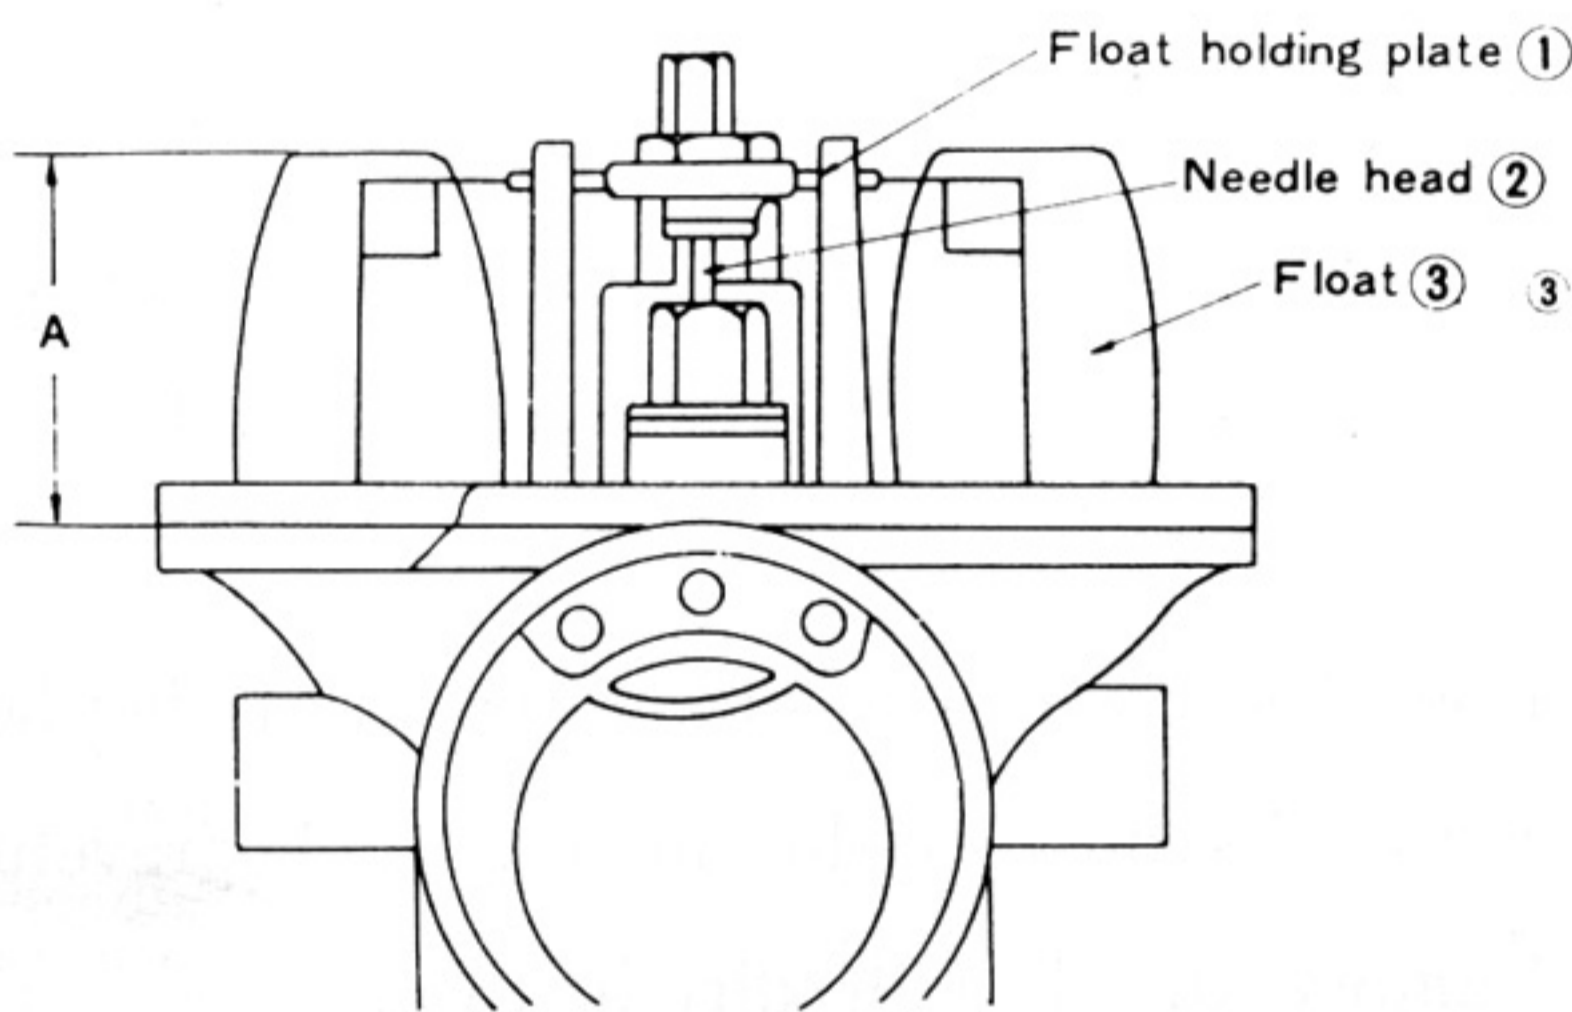

Fig. 3-18-6
- Then measure the height (A in Fig. 3-18-6) from the top of the float to the float chamber gasket seat.